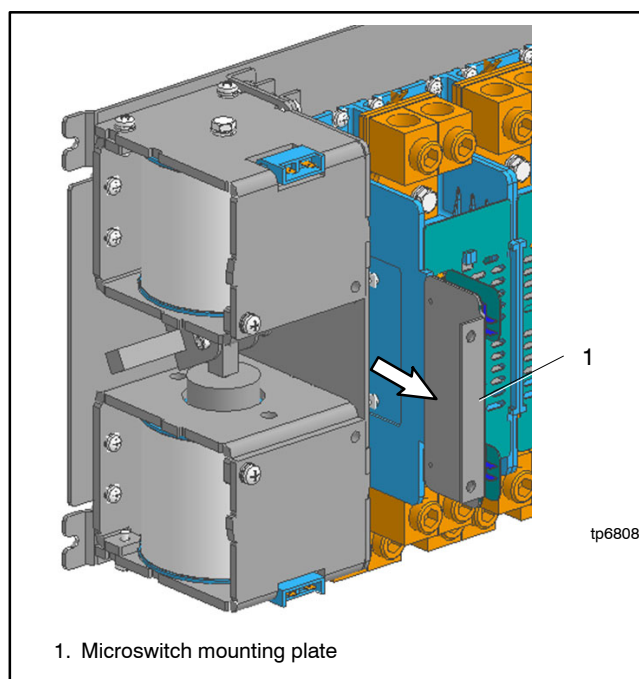

Figure 7-42 Microswitch Mounting Plate
2. Move the microswitch mounting plate toward the direction of arrow for removal. See Figure 7-42.